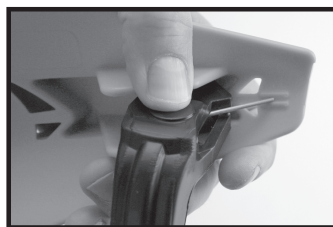

Figure 2
2. (FIGURE 2) PLACE BRACKET ONTO BACK OF SHIELD WITH THE END OF THE SPRING IN THE IN-MOLDED SLOT ON THE BACK OF THE SHIELD. (NOTE: BRACKETS ARE LABELED "R" AND "L")